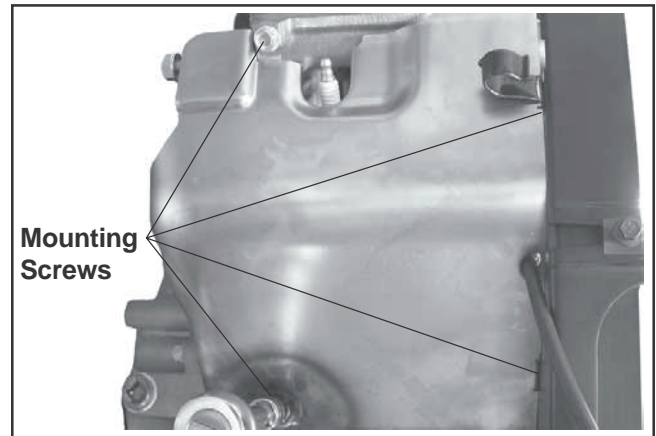

Figure 8-17. Removing Outer Cylinder Baffles.
2. Remove the four screws securing each of the outer cylinder baffles in place. Two of the screws are accessed from the backing shroud side. See Figure 8-17.